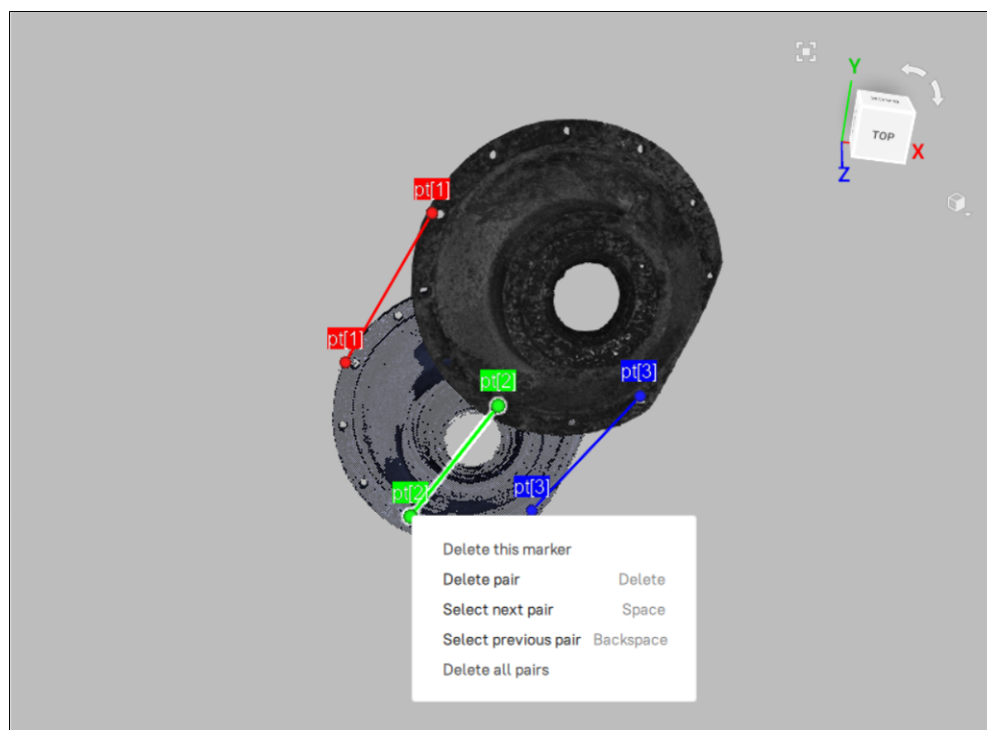
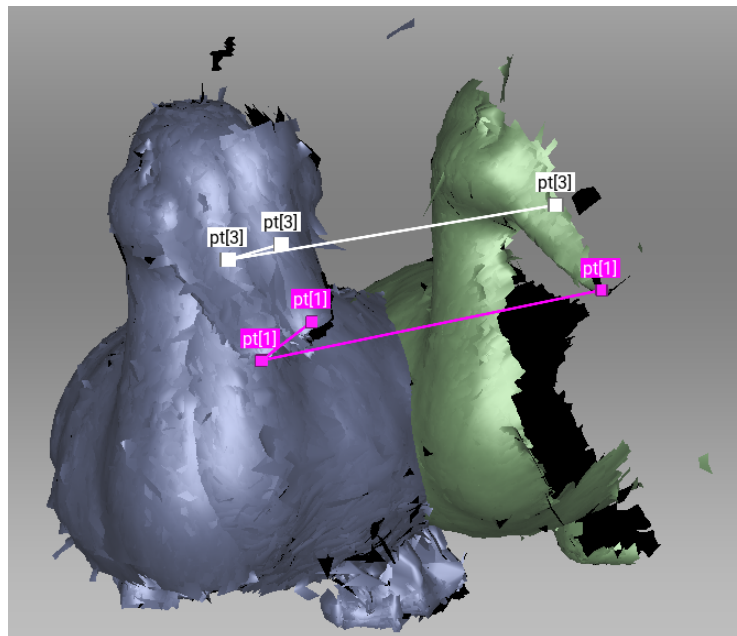

Figure 113: Creation of point pair.
Figure 118: Before alignment: two point-set added.
When specifying points in the *Best Fit* and *Nonrigid* types, the application automatically creates pairs. Having specified one pair, you can immediately create the next one. In the *Complex* type you must confirm set creation by hitting `Space` or by clicking *New set* from the left panel, because the set may comprise multiple points (see Figure 113 and Figure 118).
3. Specify several point pairs (Figure 113), keeping in mind the recommendations from Specifying Point Sets \(Markers\) and Editing their Positions.
3. Specify one or more point sets on the scan surface (see Figure 118), keeping in mind the recommendations in *Specifying Point Sets (Markers) and Editing their Positions*.